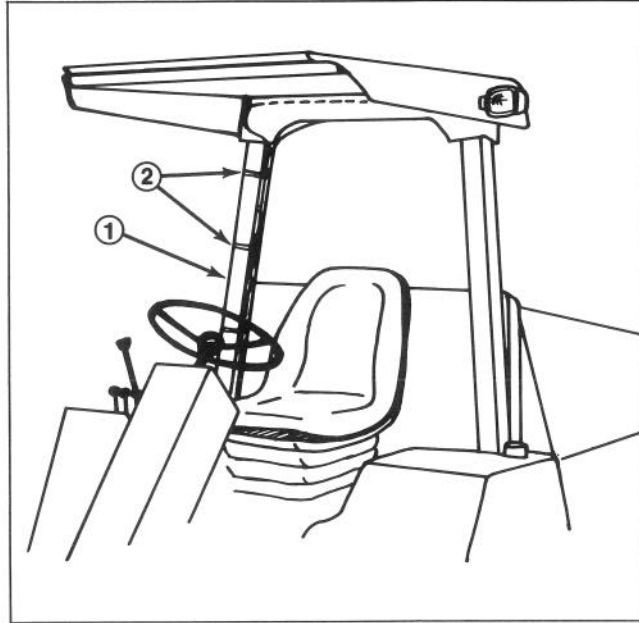

Figure 24
2. Route the harness wire up the right hand ROPS frame to the canopy (Fig. 24).